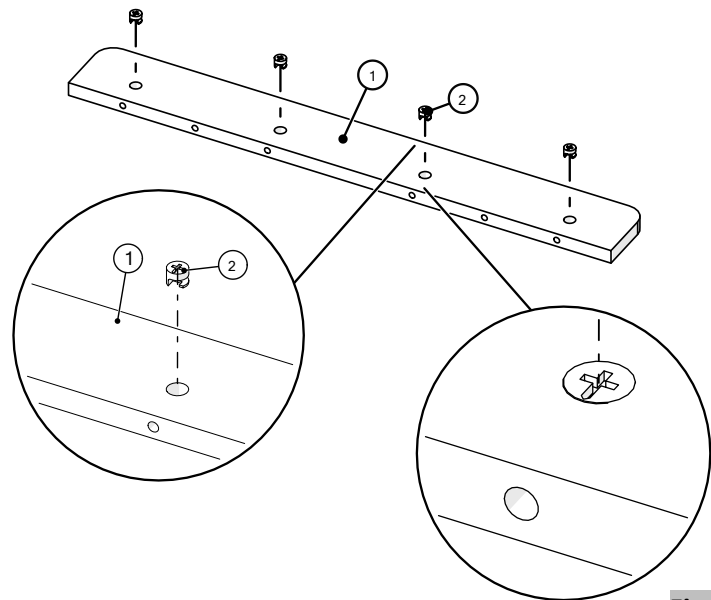

Figure 1
- 2. Insert the CamFix into the holes of the HAT skirt. Ensure the arrow of the CamFix is pointing downward, (Figure 1).